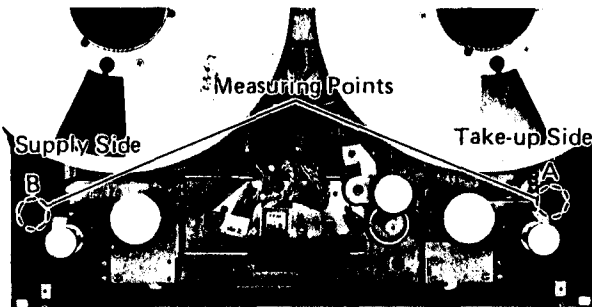
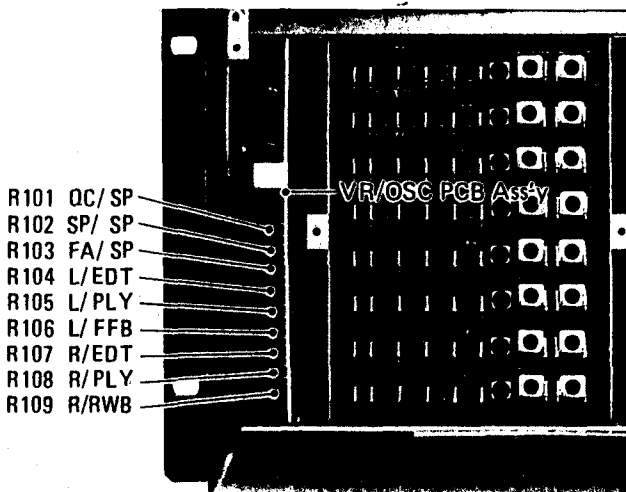
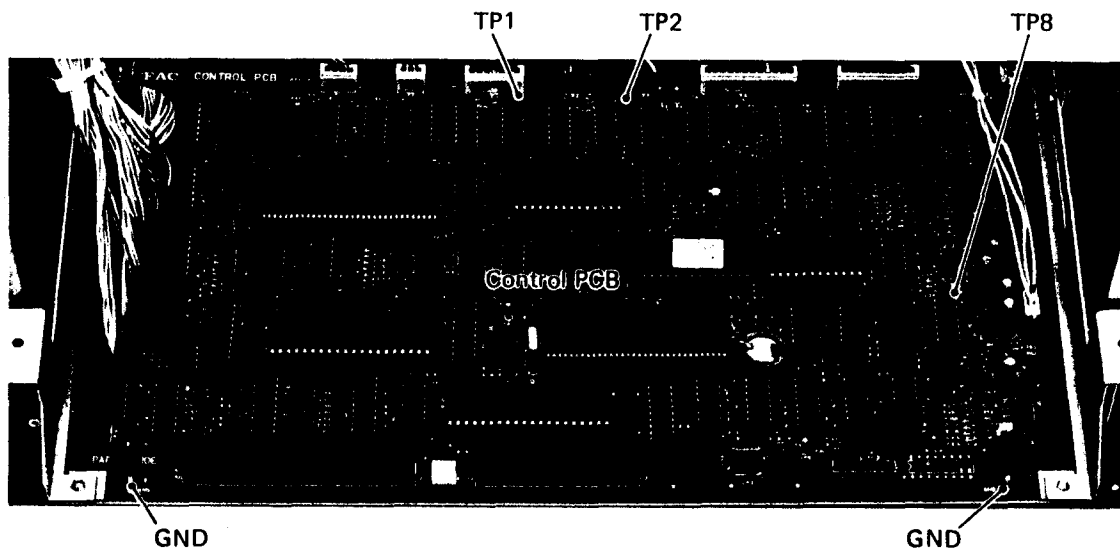

FIG. 13. TAPE TENSION MEASUREMENT POINTS
FIG. 14. TAPE PENSION ADJUSTMENT RESISTORS
FIG. 15. TEST POINTS ON CONTROL PCB ASS'Y
3. Using a tension analyzer or tentelometer, measure take-up tension at test point A and back tension at test point B (Fig. 13). Both readings should be 140 ± 10 g. If not, adjust R107 (for take-up tension) and/or R104 (for back tension). Refer to Fig. 14 for locations of adjustment resistors.
3. While the tape is rolling in reproduce mode, take a reading from a tension analyzer or tentelometer at test points A (take-up tension) and B (back tension). Take-up tension should be 160 ± 10 g, and back tension 140 ± 10 g. If either or both readings are not within the limits, adjust R108 (for take-up tension) and/or R105 (for back tension). Refer to Fig. 14 for locations of adjustment resistors.
Connect TP-8 to GND located on the Control PCB (Fig. 15), and press the EDIT button, then read the tentelometer, at point B for fast forwarding tension and at point A for rewinding tension.
These are measured with an oscilloscope connected to TP-2 on the Control PCB (see Fig. 15). Adjustment points are provided on the VR/OSC PCB (see Fig. 13). Measurements are taken by having tape in the middle portion.